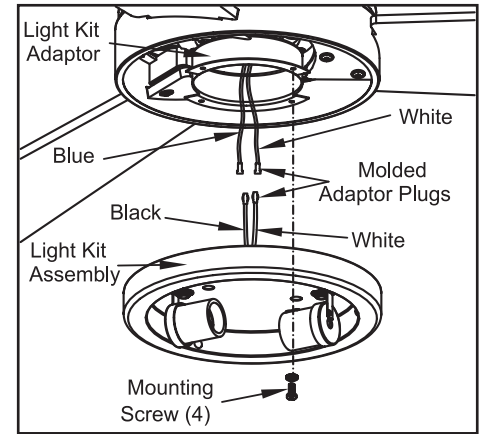

Figure 13
1. Loosen but do not remove three of four mounting screws from the light kit adaptor below the fan motor assembly; remove one mounting screw. (Figure 13)